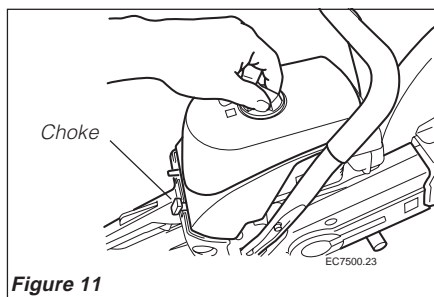

Figure 11
2. Unscrew the knob on the cleaner cover and remove the cleaner cover. See Figure 11.